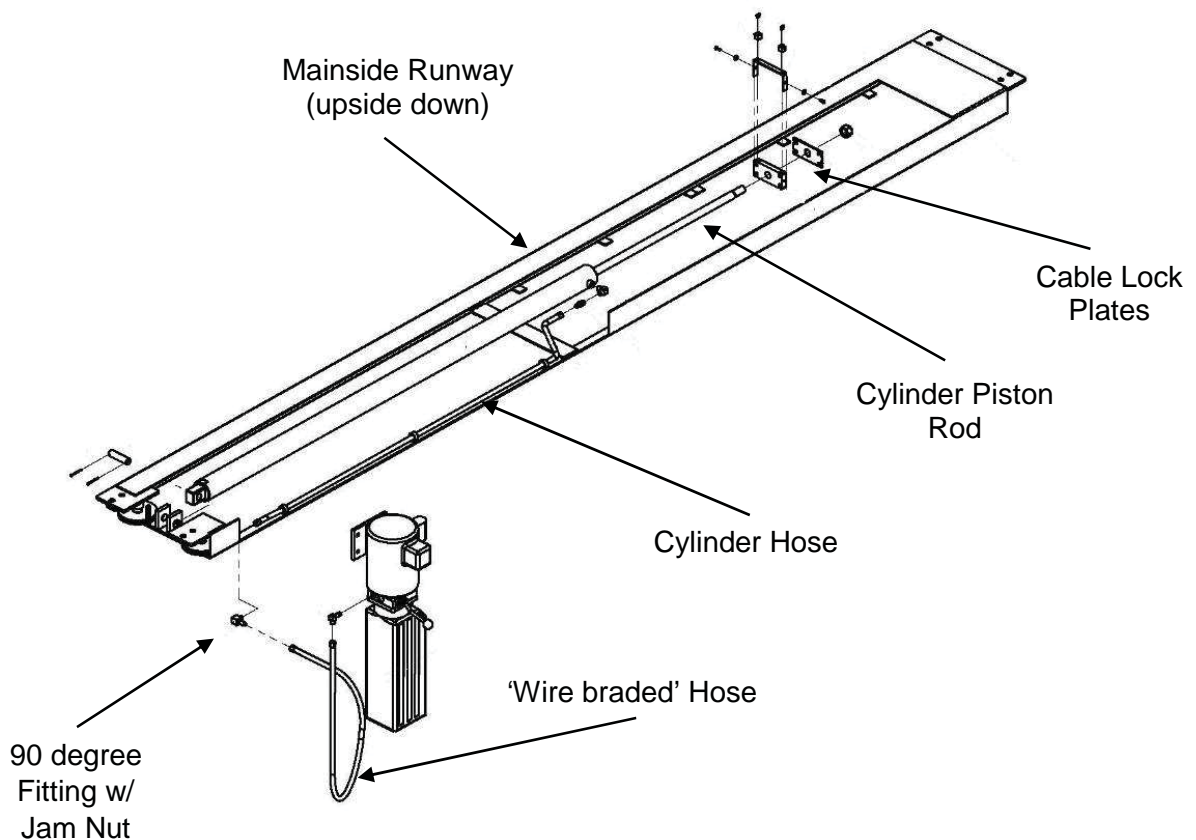

Fig. 2
2. While the Mainside Runway (Fig. 2) is upside down, find the end of the Hydraulic Hose that is already connected to the Cylinder. Locate hole on the side of the Mainside Runway (#1) and install the 90 degree Fitting (#61) securing to runway with Jam Nut. Also remove the plastic shipping ties securing the pre-installed Cables.
20. Install the “wire braded” Hydraulic Hose (#43) to the Fitting on the side of the Main side Runway and attach the other end to the 90 degree Fitting on the Power Unit as shown in Fig.2.